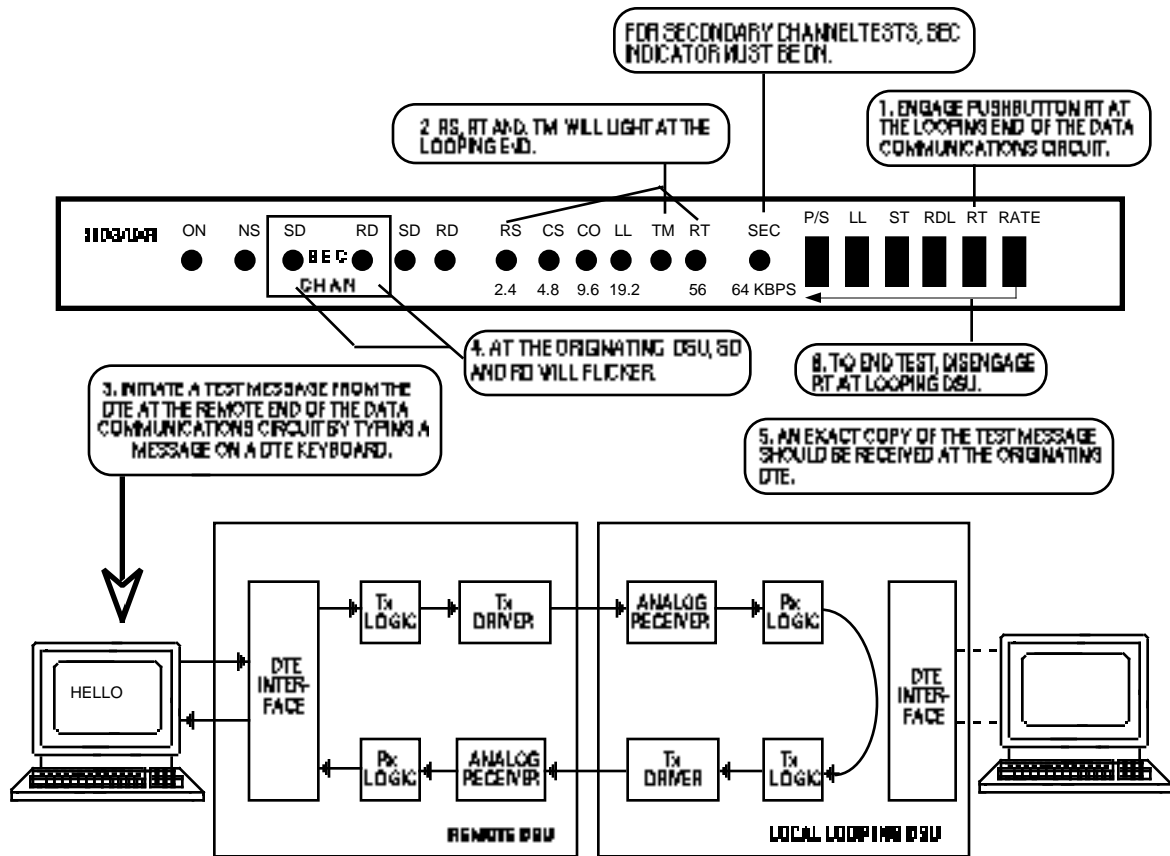

FIGURE 4-10. SECONDARY REMOTE TERMINAL TEST, LOCALLY CONTROLLED
Remote Terminal (RT) test checks performance of local and remote DSUs, the remote DTE, and the communications line. When the test is initiated, the local looping DSU transmitter input and receiver output are disconnected from the DTE interface and connected together, creating a circuit that loops the receiver's digital output signals to the transmitter's input. Figure 4-10 illustrates RT.